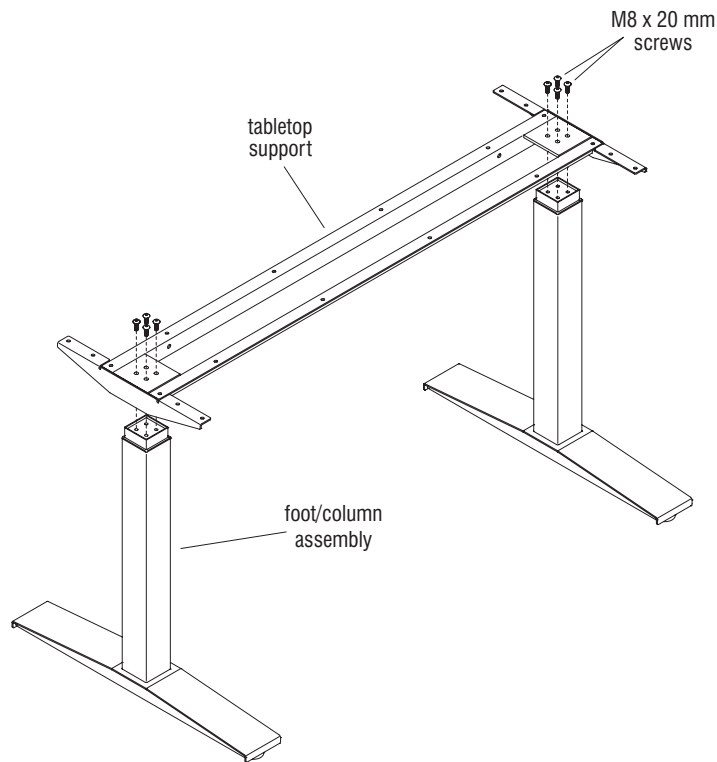

Figure 2
1. With the foot/column assembly standing upright on the glides, align the four holes in one end of the tabletop support with the four holes in the small end of the foot/column (Figure 2).
2. Attach the tabletop support using four M8 x 20 mm screws, tightening each screw one quarter turn at a time in a diagonal pattern until all four screws are tight (Figure 2 & Detail A).
3. Attached the second foot/column in the same manner (Figure 2).